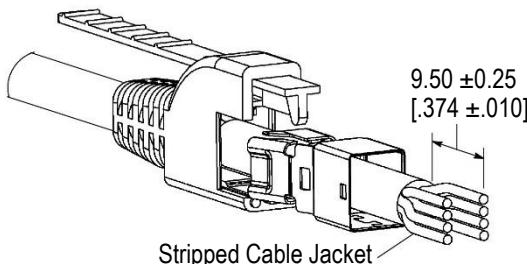

Figure 2
Prior to stripping the cable, make sure to slide the strain relief and shell onto the cable and away from the stripping area. See Figure 2.
1. Strip the cable jacket to 9.50 ± 0.25 mm [.374 ±.010 in.] as shown in Figure 2.